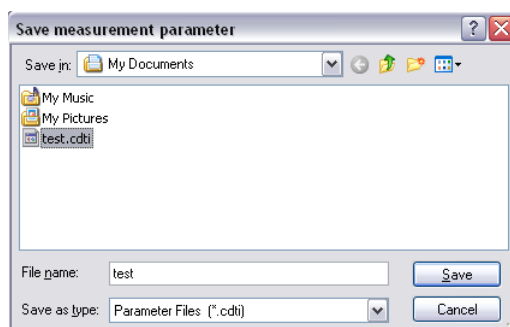

Figure 6.7 [Save measurement parameter] dialog box
- (2) Select a location to save the parameters by clicking the arrow on the top of the [Save in] box (in Figure. 6.7, “Desktop” is selected).
- (3) Input a filename in the [Filename] text box. The extension (the letters appearing after “.”) need not be entered. The output file is saved as a .cdti format file.
- (4) Clicking the <Save> button saves the spectrum is on disk (in the example the filename is “test”)
**Note (2):** The parameters are specific for each accessory. If registering a different accessory, the current parameters are discarded and either the default parameters or the parameters registered by clicking the <OK> button in the [Parameters Setting] window are used.